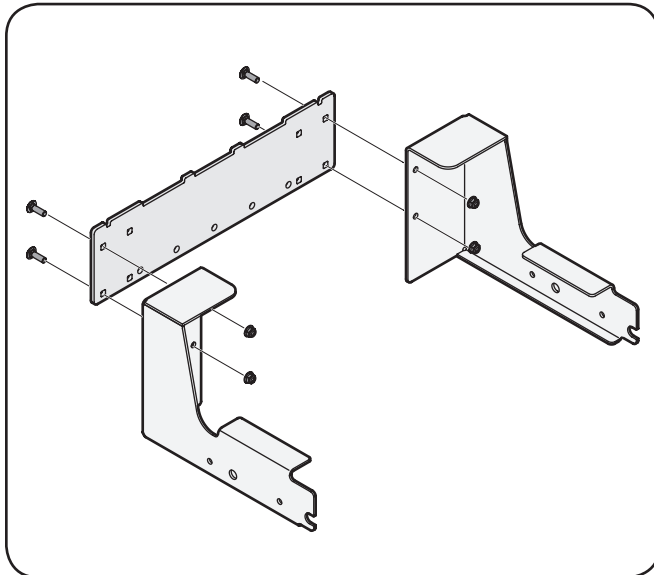

Figure 4-1
To assemble the bagger mounting assembly, locate the mounting assembly parts, as shown in Figure 4-1, and follow these steps:
1. Attach the two hitch side brackets to the rear attachment bracket using four 710-0276 carriage bolts and 712-04063 flange lock nuts from hardware pack 689-00320. See Figure 4-1.